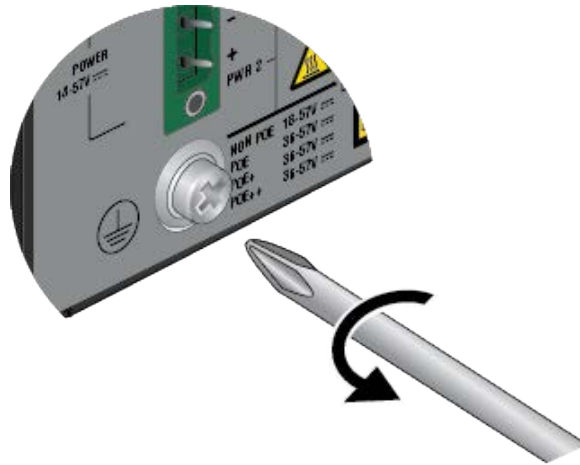

Figure 51. Removing the Grounding Screw
7. Remove the grounding screw from the switch with a #2 Phillips-head screwdriver. Refer to Figure 51.